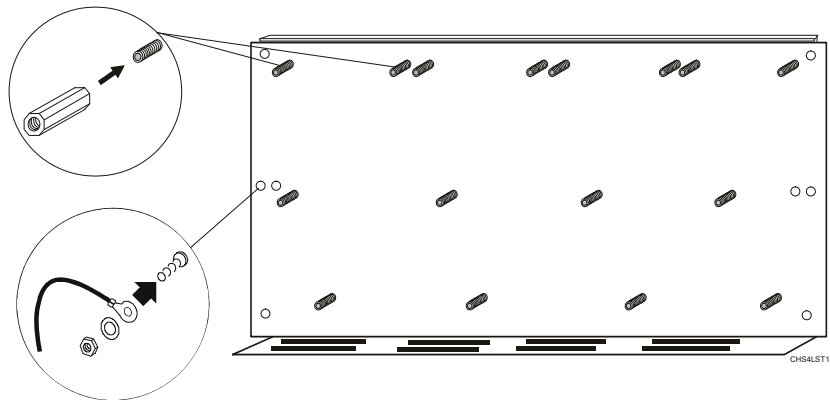
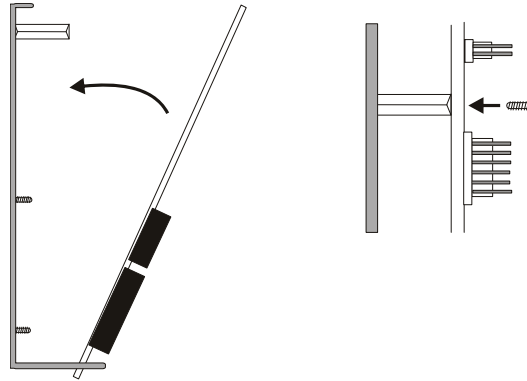

Figure 2.2 CHS-4L Mounting
Figure 2.3 Installing LDM Modules in CHS-4L
2. Mount chassis in backbox. If a CHS-4L is to be used in mounting the LDM, connect the chassis to the cabinet as illustrated in Figure 2.3 on page 11. Secure standoffs (supplied) to the chassis or enclosures as shown in Figure 2.2 on page 10.
The CHS-4L chassis will support up to four LDM2-60/32 modules. The CHS-4L chassis may be mounted inside the CAB-A4 and the CAB-B4 backboxes. Note that a solid earth ground connection is required for proper operation as well as to aid in transient protection. Two female-to-female standoffs must be installed to the chassis to secure the LDMs in place. (See Figure 2.2). Mount the CHS-4L Chassis to a cabinet and secure with the hardware provided. A Grounding Cable Assembly must be connected to the chassis mounting stud for connection to the annunciator's *Earth Ground* terminal. For each LDM module to be installed on the chassis, connect two female-to-female standoffs (provided) to the upper mounting studs on the chassis.